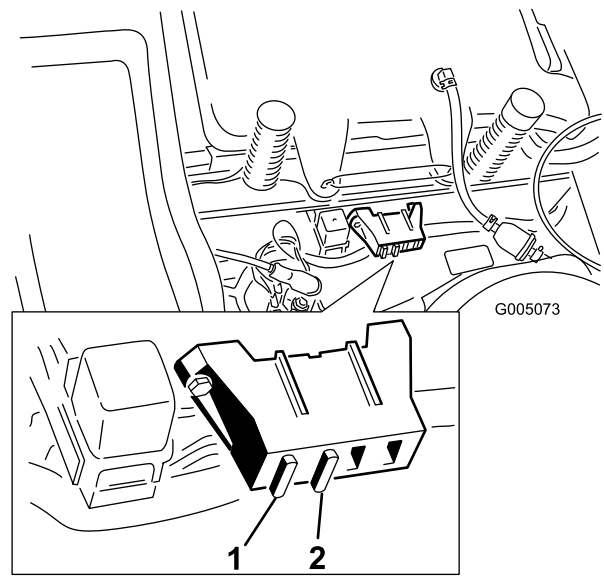

Figure 31
1. Raise the seat to gain access to the fuse holder (Figure 31).
2. To replace a fuse, pull out on the fuse to remove it (Figure 31).